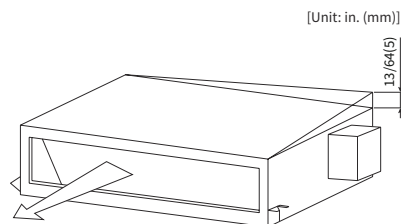

Figure 4.7 Gradient of the Top Surface
(1) Ensure that the top is even and measure the largest top gradient.
(2) As shown in figure 4.7, the back of the indoor unit is slightly lower than its front (0inch(0mm) - 13/64inch(5mm)), which facilitates drainage work.
(3) Once the position is adjusted, tighten the hanging nut. Apply the thread locking agent to prevent loosening the hanging nut.